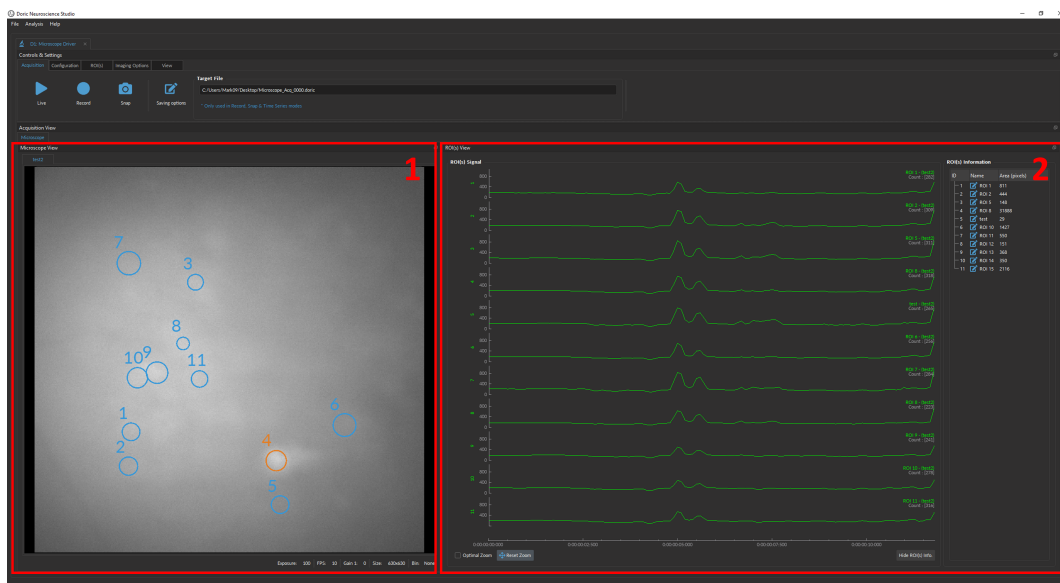

Figure 7.19: Acquisition View
The **Acquisition View** is split into two sections (Fig. 7.19):
1. The **Microscope View** (Fig. 7.19, 1) - Section 7.4.1.
2. The **ROI(s) View** (Fig. 7.19, 2) - Section 7.4.2.